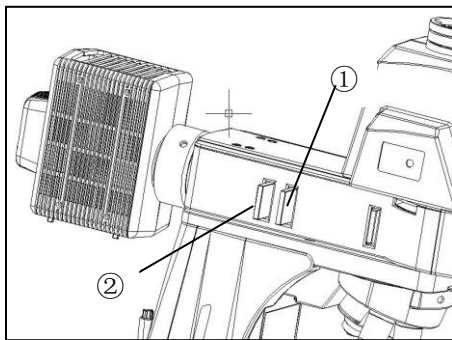

Fig 6
(fig.4, fig.6)
9. Adjust the mirror focusing knob (6) (Fig.6) to sharpen the mirror reflected arc image. (C)
10. Turn the burner adjusting knob (5) to overlap the are image with the mirror reflected are image. (D)
- ☉ Turn the collector adjusting knob (4) to make the field of view as bright as regular as possible..
**Centering the mirror reflected image (fig.6)**
Knob control: (fig.6)